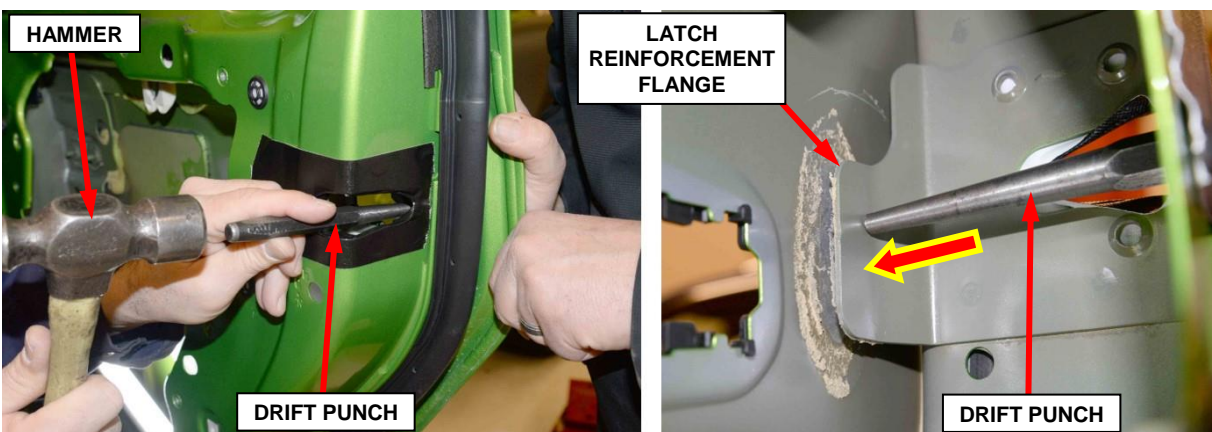

Figure 29 – Bend the Latch Reinforcement Flange Toward the Door Skin
47. Place a drift punch through the door latch opening. Attempt to bend the latch reinforcement flange towards the outer door skin using a hammer (Figure 29).